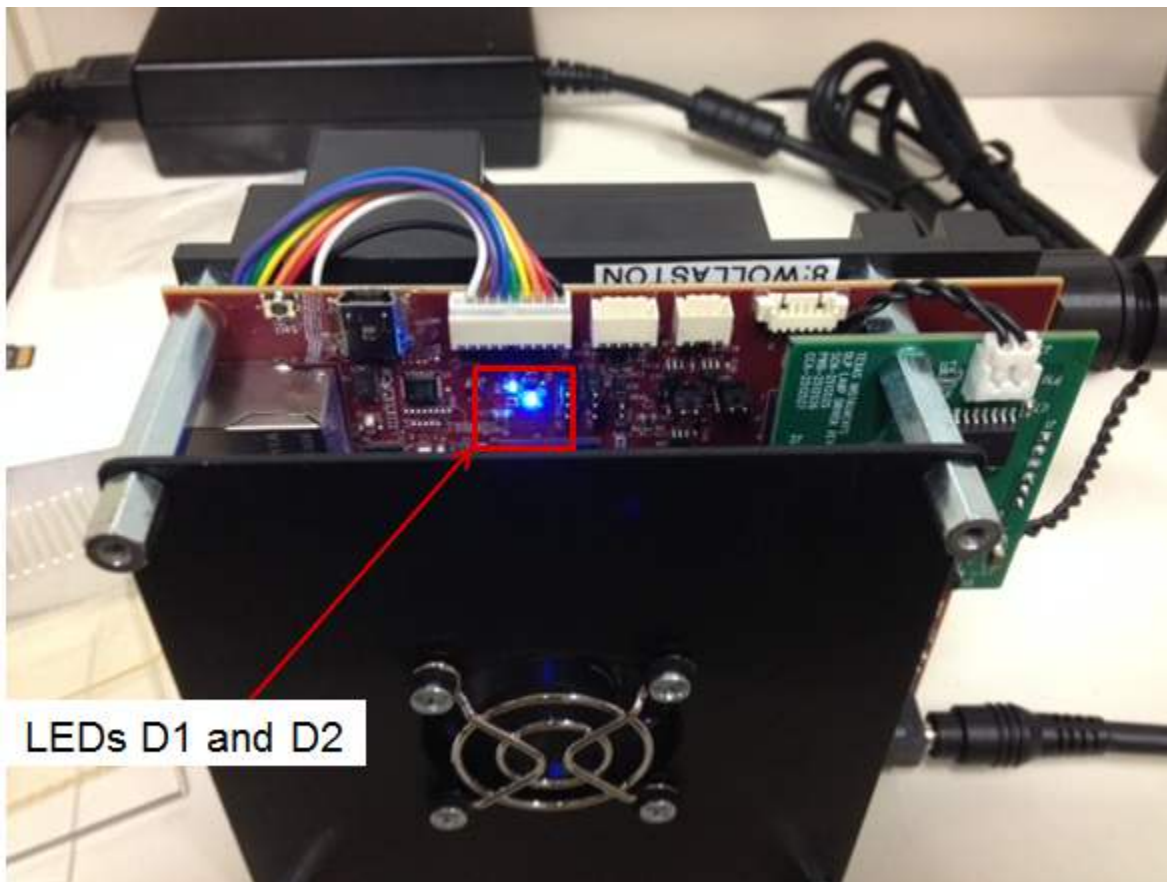

Figure C-3. LED Location
5. One or both of two blue LEDs (D1 and D2) as shown in Figure C-3, flash on and off erratically. This behavior indicates the eMMC is being programmed.